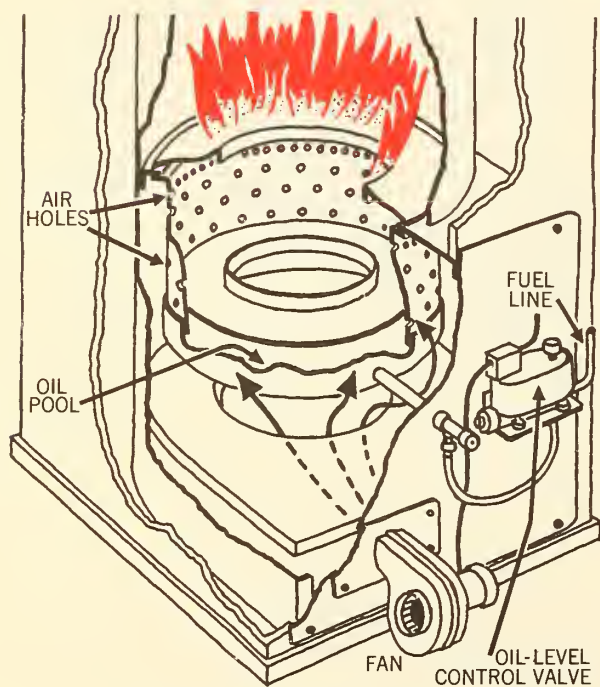

Figure 20.—Pot-type oil burner.
**Oil burners.**—Oil burners are of two types: vaporizing and atomizing. Vaporizing burners pre-mix the air and oil vapor. The pot-type burner (fig. 20) is vaporizing. It consists of a pot containing a pool of oil. An automatic valve regulates the amount of oil in the pot. Heat from the flame